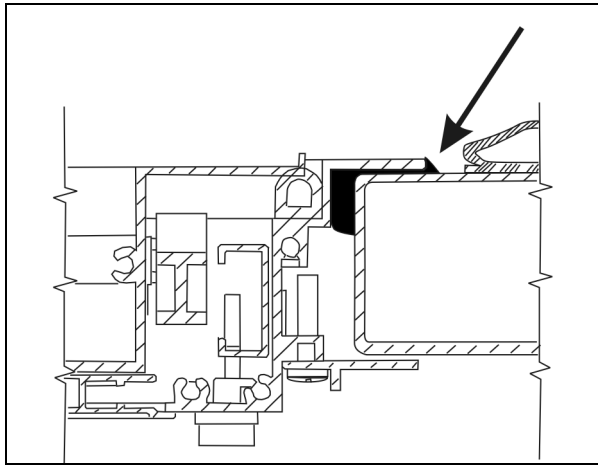

FIGURE 68 : SMOOTH DOWN THE JOINT
- Open the awning window manually and smooth down the joint (FIGURE 68) and remove glue in excess with Sika 208.